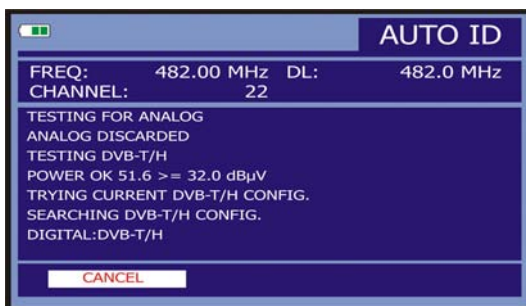

Figure 53.- Automatic identification of the signal.
4. Enter parameters manually to lock signal or press  [25] (Automatic Identification) for an automatic identification of the signal (Figure 53.-).